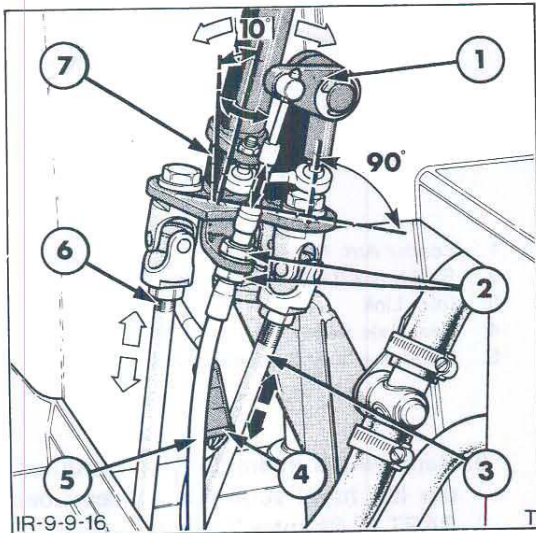

Figure 16
2. Slide the panel up the lever to expose the transmission dump switch wiring and disconnect the connector at the base of the lever linkage, Figure 16. Release the cable retaining strap.
Installation of the loader lever control system follows the removal procedure in reverse. During installation ensure correct adjustment of the controls as follows and upon completion ensure that the loader control lever operates in all planes of movement, Figure 16.
1. Adjust the loader and bucket control rods, Figure 16, so that when the control spools are in neutral the control lever is in a vertical plane across the axis of the vehicle and inclined at 10° rearwards along the axis.
1. With valve section in neutral position adjust the operating cable until the vertical link of the control bellcrank is at 90° to the base plate of the control lever, Figure 16.